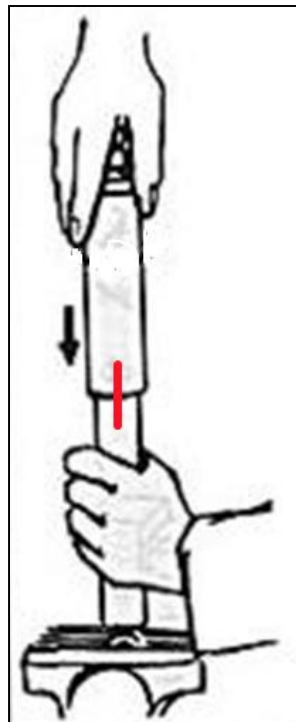

Figure 3: Drawing a Mark Line along the Dust Cap and Piston Rod
7. Keeping the shock absorber collapsed, apply a mark along the dust cap and piston rod, see Figure 3. This mark helps counting turns in the next step.